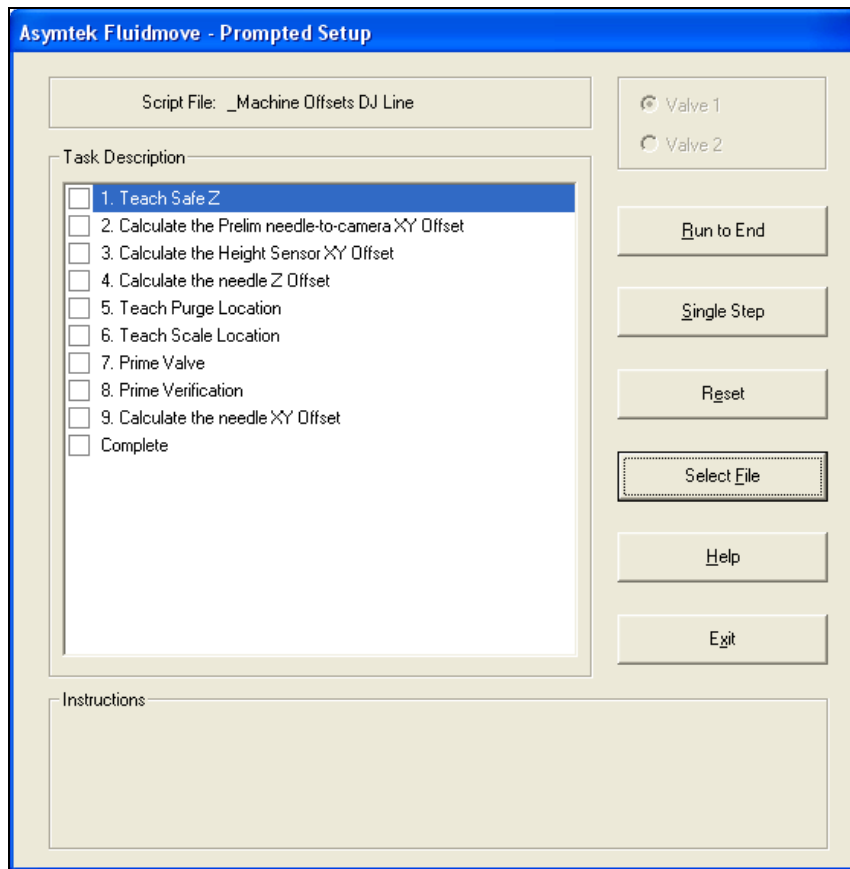

Figure 2-6 Prompted Setup
- ▶ The Prompted Setup Window opens (Figure 2-6).